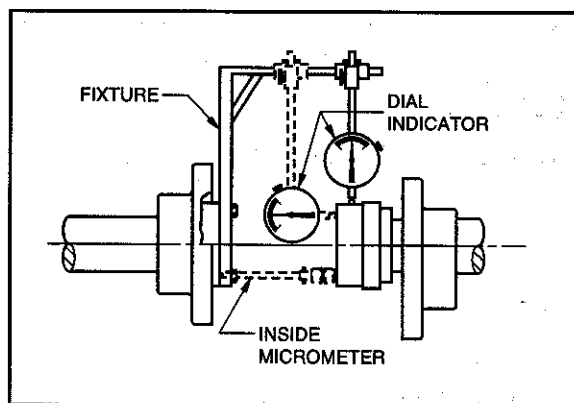

Figure 3. Testing alignment, dial indicator
- (c) The preferred test for parallel and angular alignment may be made with a dial indicator mounted as shown in Figure 3. Proceed as follows:
- (1) Scribe the index lines on the coupling halves (as shown) or mark where the indicator point rests.
- (2) Set indicator dial to zero.
- (3) Slowly turn *BOTH* coupling halves so that index lines match, or indicator point is always on the mark.
- (4) Observe dial reading to determine whether pump or driver needs adjustment.
- (5) Acceptable parallel and angular alignment occurs when total indicator reading (complete turn) does not exceed limits specified by the coupling manufacturer. Refer to pages 15 - 21.